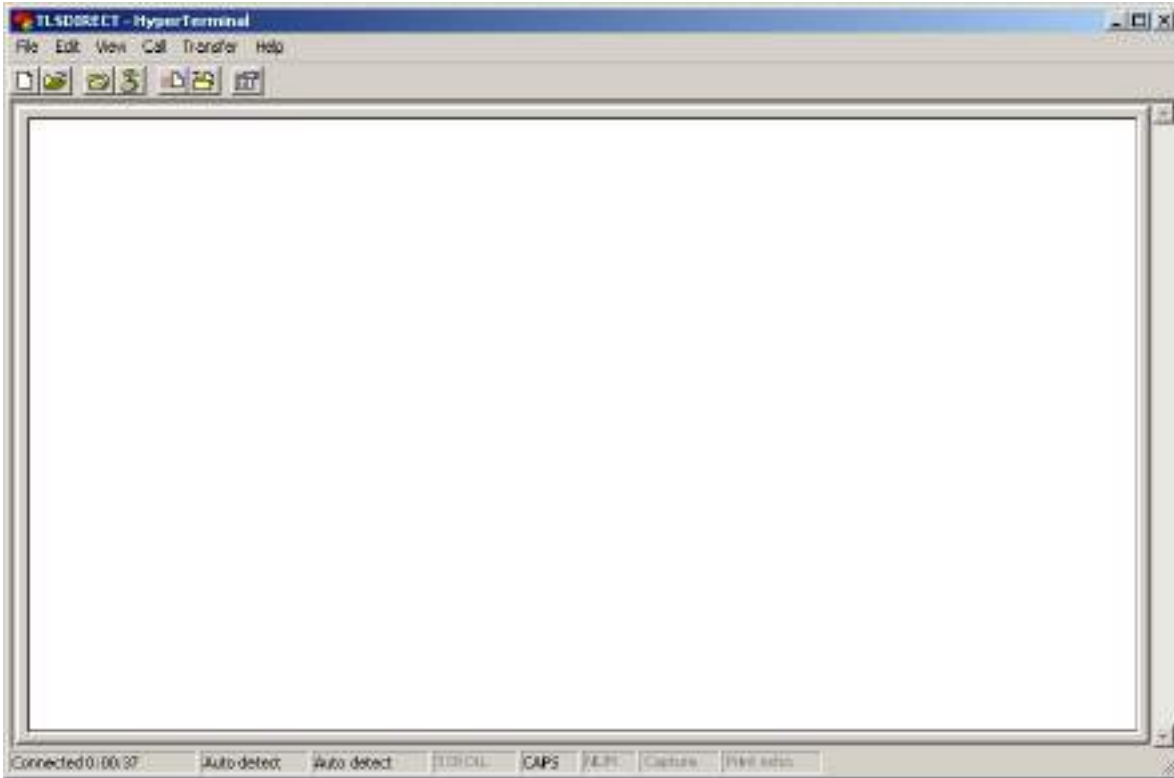

Figure 29. HyperTerminal Main Window
- 6. After entering your port settings, the program's main window appears (Figure 29).